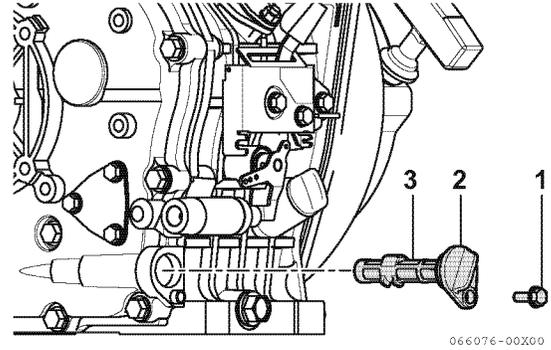

Figure 4
1. Remove the oil filter retaining bolt (1, **Figure 4**).
2. Pull the oil filter cap (2, **Figure 4**) out and remove the oil filter (3, **Figure 4**).
4. Install the oil filter (3, **Figure 4**).
5. Make sure the oil filter cap is fully seated (2, **Figure 4**).
6. Install and tighten the oil filter retaining bolt (1, **Figure 4**).